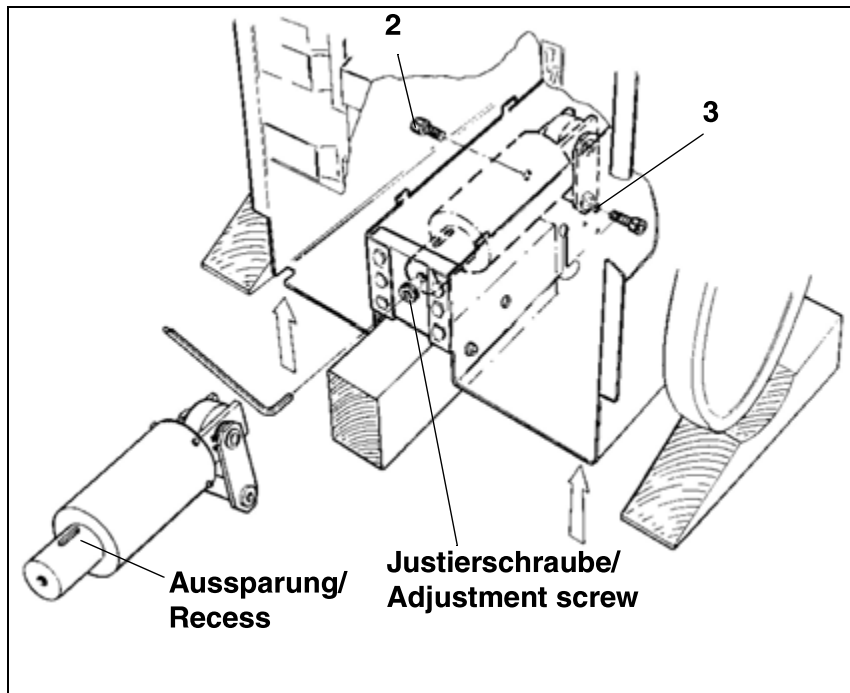

Fig. 52: Spring unit
- Undo the adjusting screw to loosen the spring unit and lower the nearest part of the unit (Fig. 52 / p. 61).
- Loosen both large Allen screws (2 + 3/Fig. 52 / p. 61) on the end of the spring unit. The entire spring unit now sags to the floor.
- Install the new spring unit and screw in the two Allen screws (2 + 3/Fig. 52 / p. 61) at the end of the spring unit (do not tighten).
- Tighten the screws (2 + 3/Fig. 52 / p. 61).